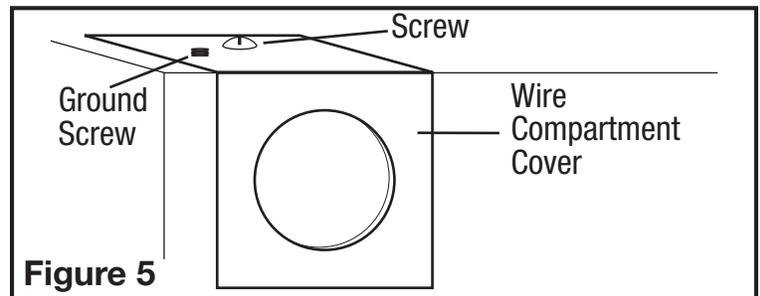

Figure 5
1. Remove the wire compartment cover screw and place cover in a secure place (Figure 5).